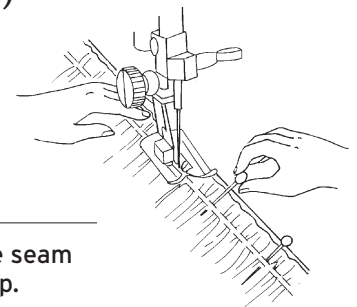

Fig. 5-5
4. Stitch the seam by sewing with the gathered edge on top. Remove the pins as you sew. (Fig. 5-5)